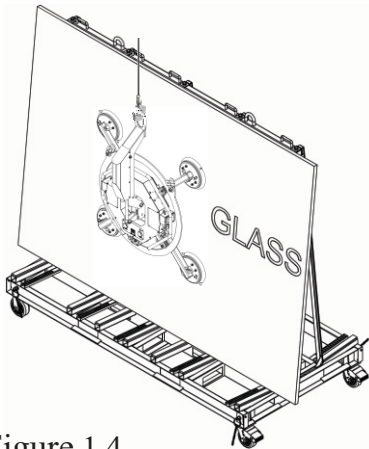
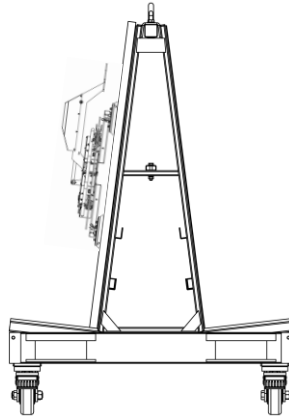

Figure 1.4
Figure 1.5
**Step 3:** Move the lifer close to the glass sheet surface (Figure 1.4 and Figure 1.5).